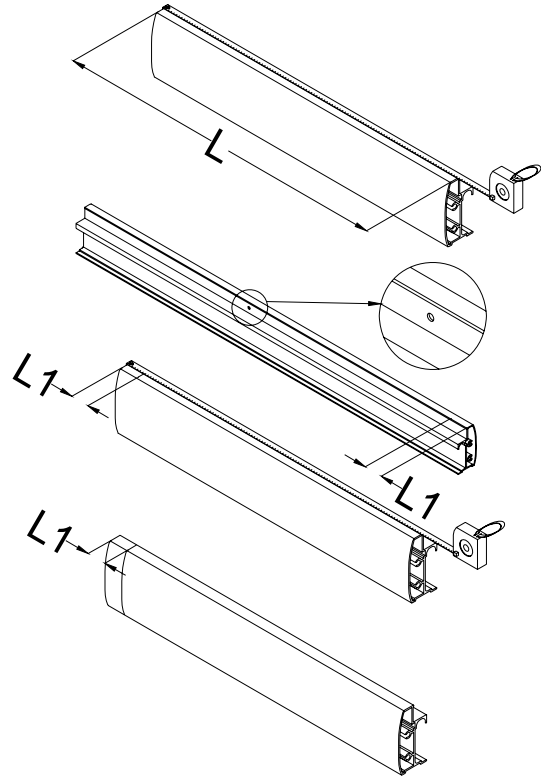
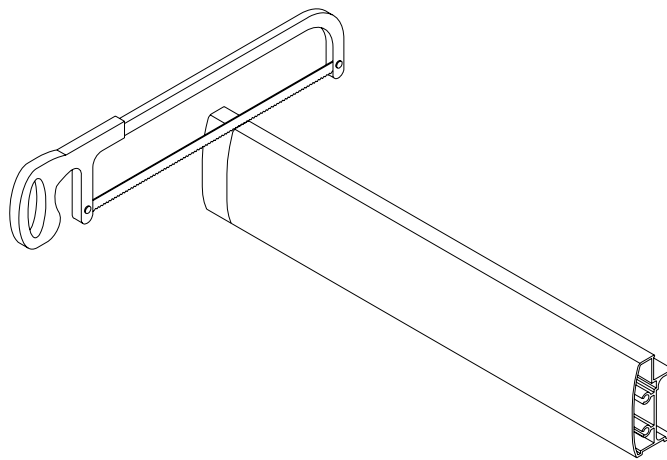

Fig 2
Fig 3
2. Measure the length of the guide rail which is L , if $(L + 3\ 1/2") \leq W \leq (L + 5")$, there is no need to cut the guide rail, you can go to Step 4. If $W < (L + 3\ 1/2")$, then you need to cut one side of guide rail which is farther from the glass holder hole. The cutting length will be $L1$; $L1 = (L + 3\ 1/2" - W)$. See Fig 2 and Fig 3 for details.